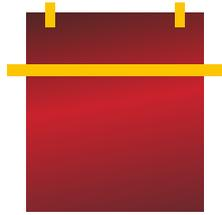

Figure 05
- ▶ Using masking tape, make a horizontal hinge on the top part, preferably on a flat area. (FIG. 05)